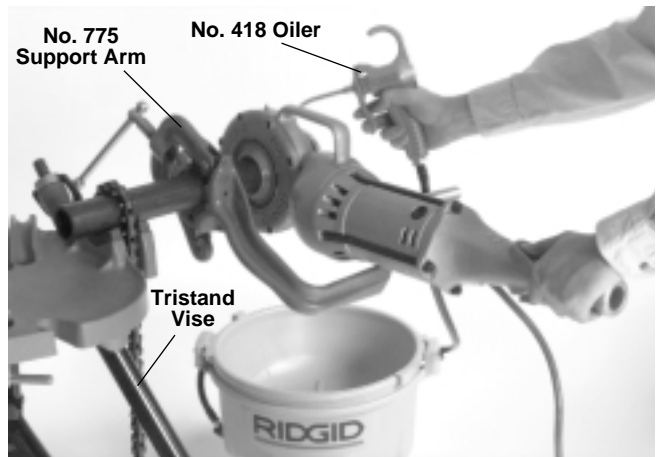

Figure 4 – Threading 2" Pipe With Power Drive Positioned On Left Side Of Vise
3. Be sure the 418 Oiler is properly filled with RIDGID Thread Cutting Oil. Position the oiler in front of the vise (Figure 4).
4. Position No. 775 Support Arm on pipe so end of tang is in line with end of the pipe (Figures 4 & 5). Make sure jaws squarely contact pipe and tighten handle firmly to prevent the slipping of the jaws.
▲ WARNING To avoid serious injury, make sure Power Drive is correctly positioned on support arm (Figures 4, 5 & 6). For right hand threads, Die Head will rotate clockwise (looking at the face of the Die Head). Forces developed by the threading torque will be in the opposite or counter-clockwise direction.